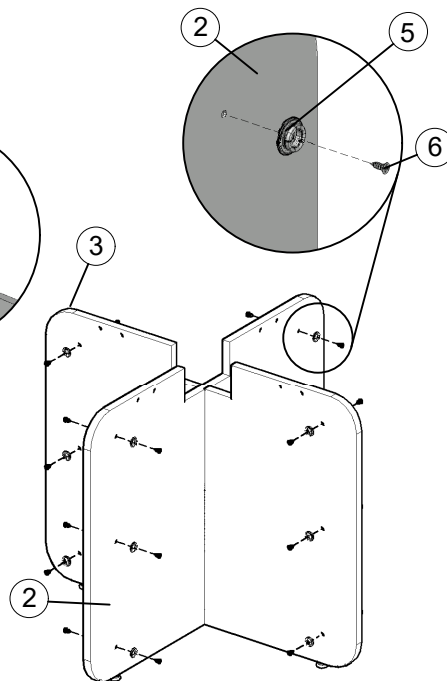

Figure 2
2. Securely fasten the Male Clips into the pre-drilled holes using #8 X 1/2" Flat Head Screws, as shown in Figure 2.